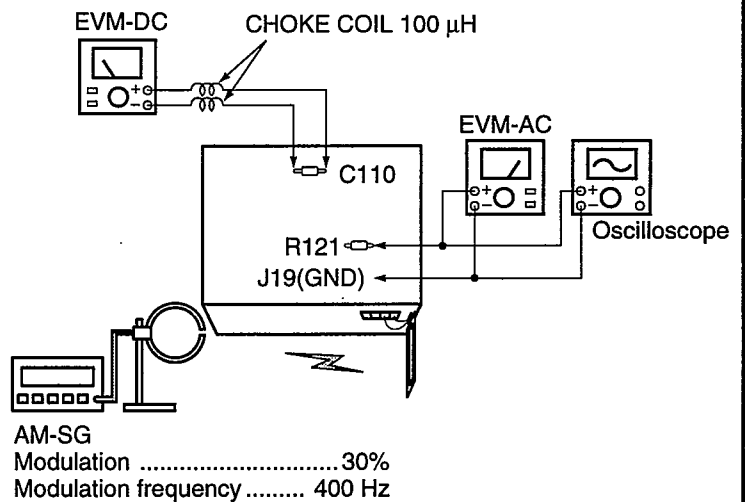

Fig. 3
1. Connect the instrument as shown in Fig. 3.